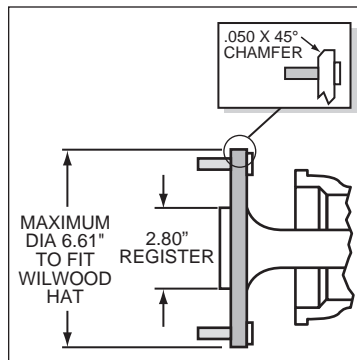

Figure 3. Axle Flange Maximum Dimension
- Axle center register diameter is 2.80", Figure 3. This kit uses Wilwood's removable center register adapters. Rotors can either be centered on the axle register, i.e. *register-centric* or centered on the wheel studs, i.e. *stud-centric*. Due to variations in wheel stud final diameters, *register-centric* centering can be a more accurate method of centering the rotor to the axle. Wilwood offers various diameter adapters for purchase in addition to the ones supplied in this kit, see Table 1.
- Maximum axle flange diameter must be no larger than 6.61" w/.050" x 45° chamfer (see Figure 3).
- Slide the bracket kit assembly (1) onto the housing flange and then insert the axle assembly through the center hole of the bracket kit assembly (1). Secure using the stock Original Equipment Manufacturer (OEM) bolts and nuts. Stock OEM hex nuts that retain the bracket kit assembly (1) should be on the wheel side of the bracket. Apply red *Loctite*® 271 to the stock OEM bolt threads and torque to OEM specifications. Make sure the bracket kit assembly (1) brake pads are FACING OUTWARD TOWARDS THE WHEEL.
- With the larger I.D. side of the rotor (3) facing away from the hat (2), bolt rotor (3) to hat (2) through the backside of the rotor using washers (4) and bolts (5). Using an alternating sequence, apply red *Loctite*® 271 to the threads and torque bolts to 155 in-lb. For an added measure of security, the bolts may be safety wired using standard 0.032 inch diameter stainless steel safety wire as shown in Figure 3. Please refer to Wilwood's data sheet DS-386 for complete safety wire installation instructions.